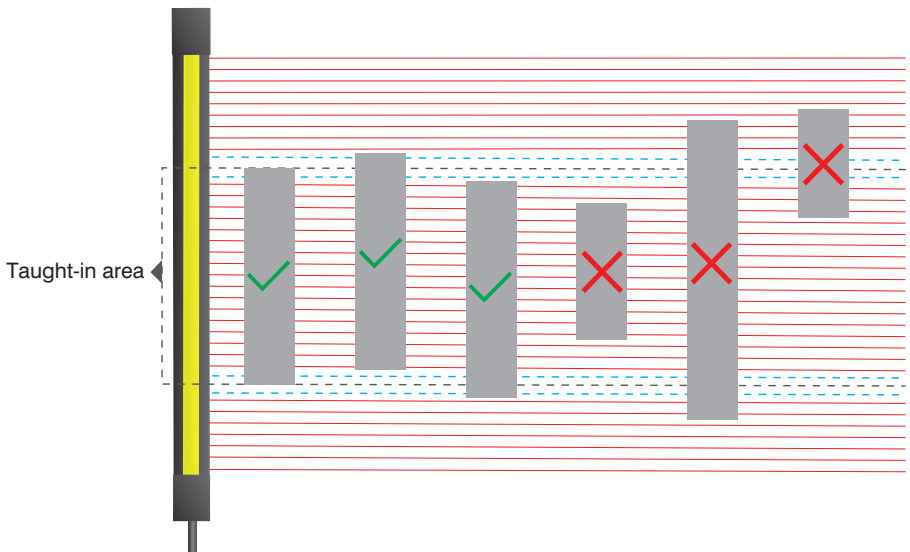

Figure 24: Permissible object movement with fix blanking with edge tolerance
- The following object movements are tolerated, although they are mutually exclusive (see Figure 24):
- The distance between two hidden areas depends on their movement within the safety field (Figure 24):